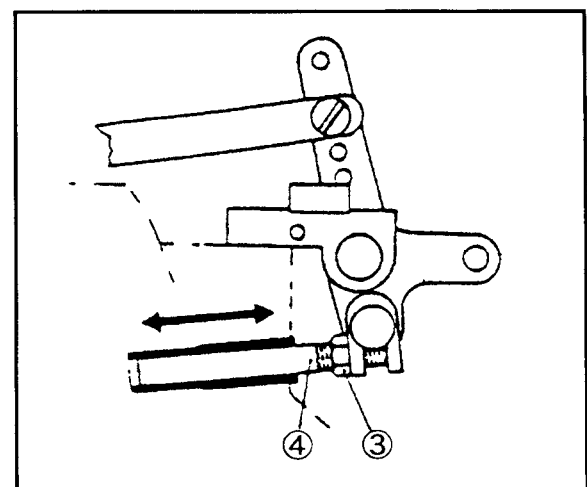

Fig. 11
- (1) Loosen the lock nut ③ .
- (2) Move the presser foot lifter stop plunger ④ in or out to adjust the clearance. (Fig. 11)
- (1) 放鬆螺母③。
- (2) 移動抬壓腳停止插銷④或再調整外面間隙。(Fig. 11)